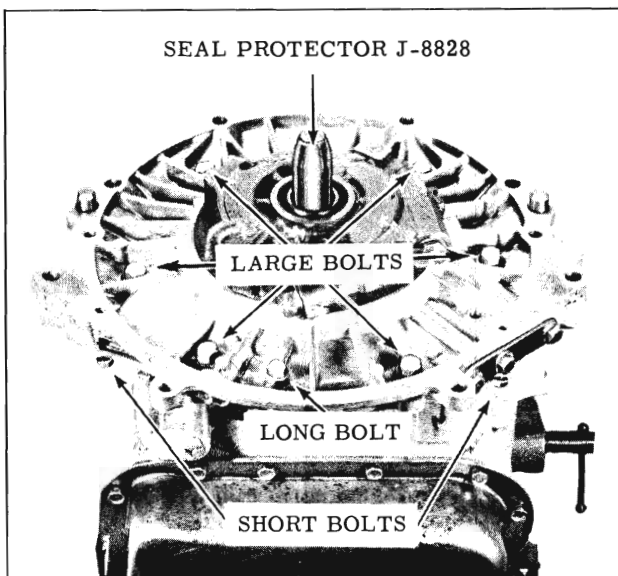

Fig. 3-117 Seal Protector and Bolt Location
19. Install Seal Protector Tool J-8828 over input shaft. (Fig. 3-117)
21. Install six large case cover to case attaching bolts with copper washers and torque 30 to 35 ft. lbs. Install the three small attaching bolts as shown in Fig. 3-117 and torque 15 to 18 ft.